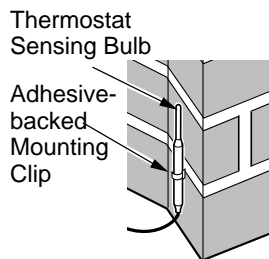
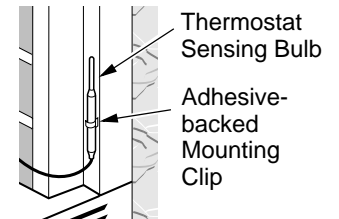
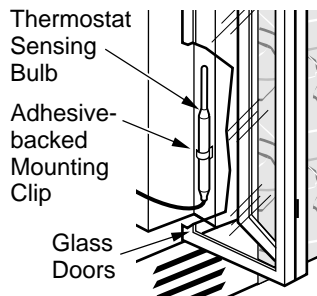

Figure 50 - Locating Thermostat Sensing Bulb on Masonry Fireplace
Figure 51 - Locating Thermostat Sensing Bulb on Factory-built Metal Fireplace
Figure 52 - Installing Thermostat Sensing Bulb behind Glass Doors
3. The thermostat sensing bulb may be located to the lower right front side of fireplace. Determine location of sensing bulb, but do not mount sensing bulb until step 5. If you have a masonry fireplace, see Figure 50 for location. If you have a factory-built metal fireplace, see Figure 51 for location. If your fireplace has glass doors, position sensing bulb directly behind door gap on right bottom side (see Figure 52).